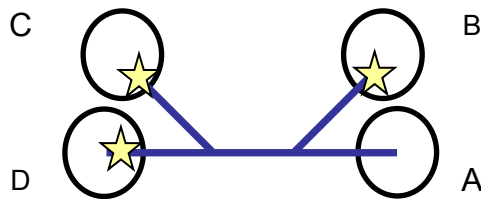

Fig 5. Areas to load sperm sorting medium in Chambers B, C and D.
- a. Load 20 μL sperm sorting medium into Chambers C and D (close to ☆, Fig 5) respectively.
- b. Load 100 μL sperm sorting medium into Chamber B (close to ☆, Fig 5)